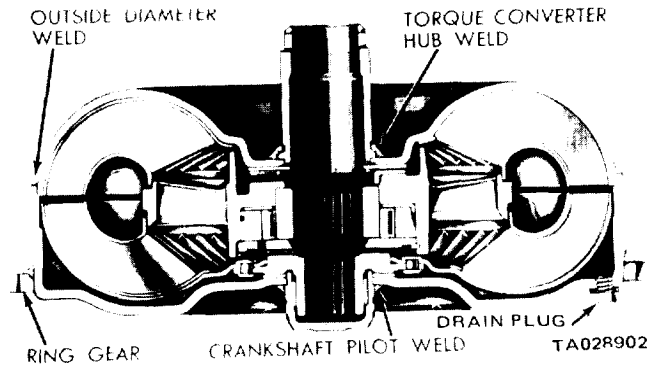

Figure 4-15. Torque Converter Cross Section.
c. Converter Leakage. Refer to figure 4-15. Possible sources of converter leakage are:
(1) The torque converter weld leaks at the outside diameter (peripheral) weld.
(2) The front pump hub weld.
(3) The crankshaft pilot weld.
(4) Fluid leakage from the converter drain plug. These leaks appear at the outside diameter of the converter on the engine side.